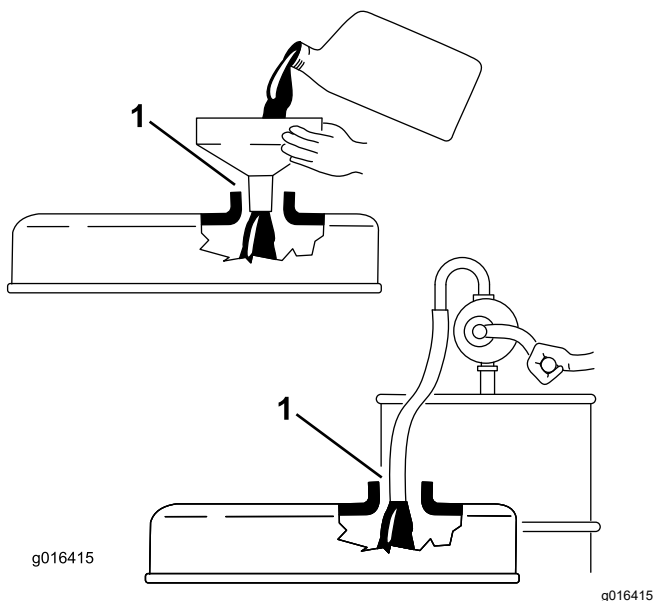

Figure 32
**Important:** Remove the dipstick while filling the engine with oil. When adding engine oil or filling oil, there *must be* clearance between the oil fill device and the oil fill hole in the valve cover as shown in Figure 32. This clearance is necessary to permit venting when filling, which prevents oil from overrunning into breather.